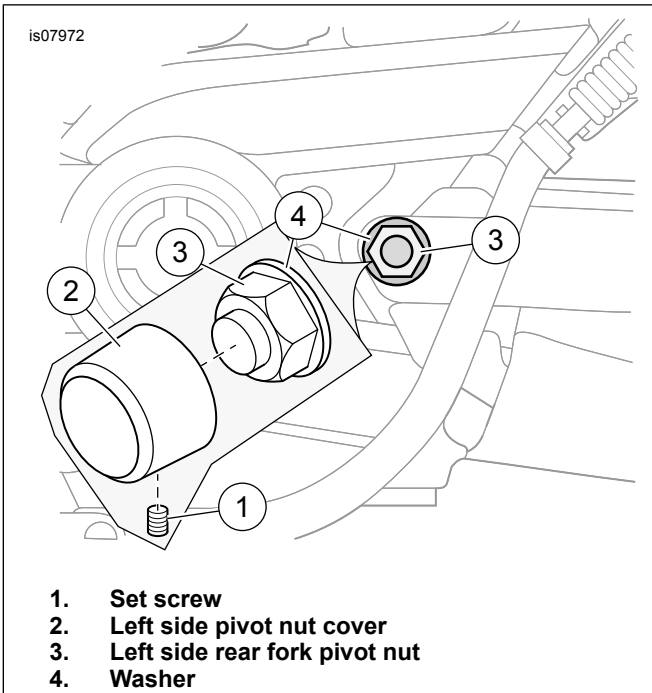

Figure 2. Left side Pivot Nut Cover Installation
1. See Figure 2. Start a set screw (1) from the kit into the pivot bolt cover (2) about two or three turns.
2. Note the position of the bottom-most flat on the rear fork pivot nut (3). Line up the pivot bolt cover over the bolt head so the set screw is centered on the hex flat. Verify that the washer (4) is centered and the cover fits. If not, refer to the service manual on how to loosen and tighten the pivot bolt. Tighten the set screw securely to the head of the rear fork pivot nut.